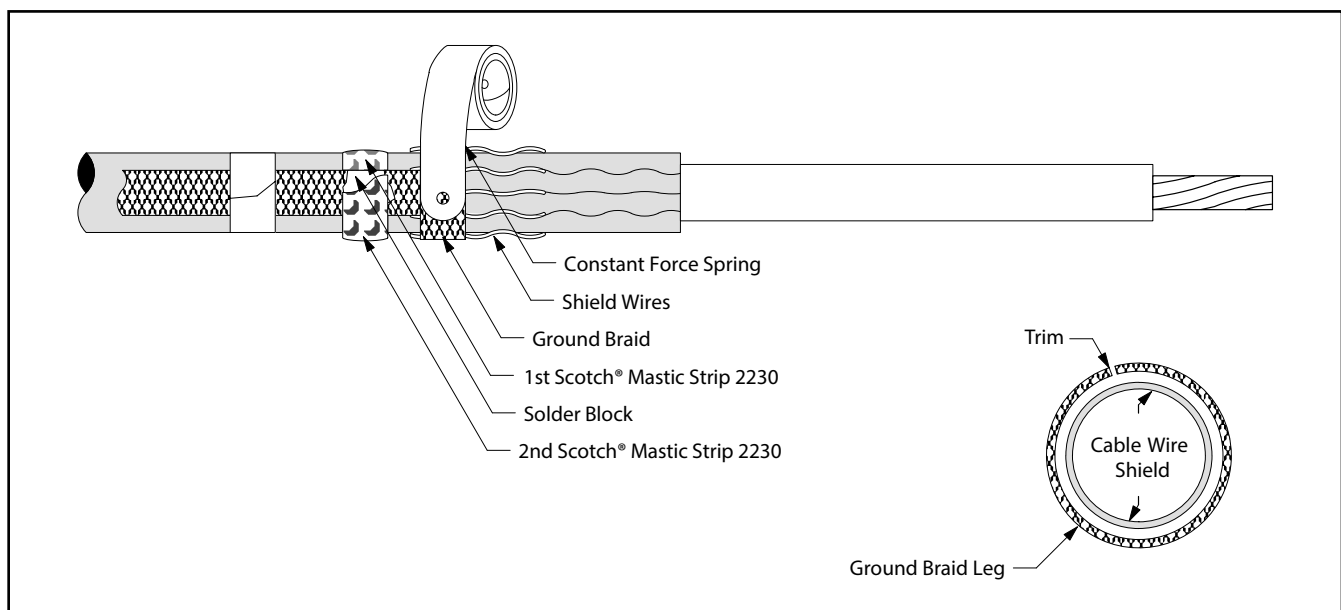

Figure 21
- 13.3 Wrap ground braid around cable shield wires one complete wrap, trim excess to prevent overlap and secure in place with constant force spring. Wrap spring in same direction as ground braid (Figure 21). Cinch (tighten) the spring after wrapping the final winding.
- 13.4 Select second Scotch® Mastic Strip 2230 from kit and remove white release liners. Apply a second **SINGLE WRAP** of mastic over solder block on ground braid and previously applied mastic (Figure 21). Cut off excess.